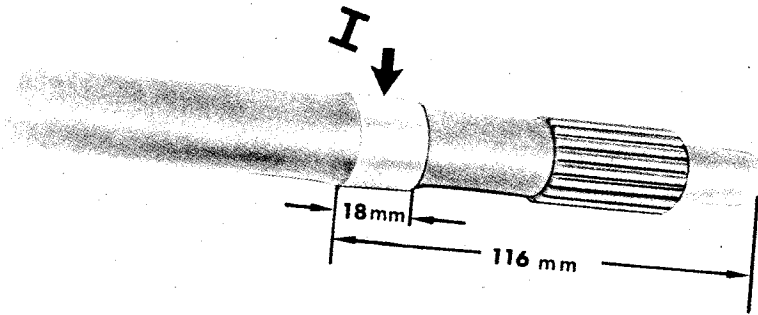

Fig. 2
- The main shaft with shorter sealing surface were factory installed on transmissions up to M.Y 1976 (Fig. 2)
Therefore, it is very important to measure the sealing surface (Fig. 2 and 3) before guide tube replacement.